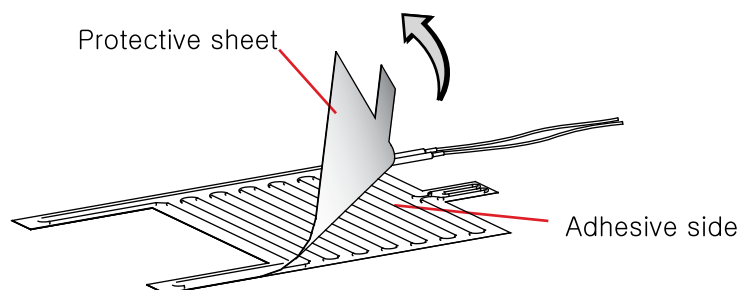

Fig 8-32
7. Remove the protective sheet of the new drain pan heater and uniformly spread it onto the bottom. (Fig 8-32)